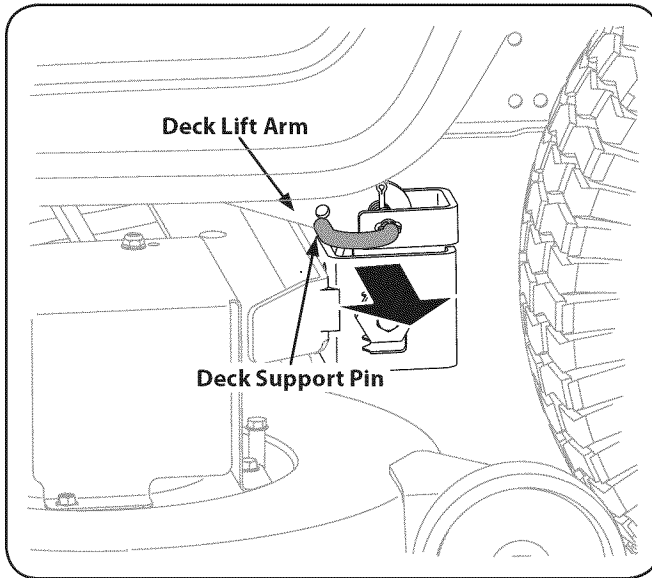

Figure 7-4
8. **On 46" Decks:** Looking at the cutting deck from the left side of the tractor, locate the deck support pin on the rear left side of the deck. Pull the deck support pin outward to release the deck from the deck lift arm. See Figure 7-4.